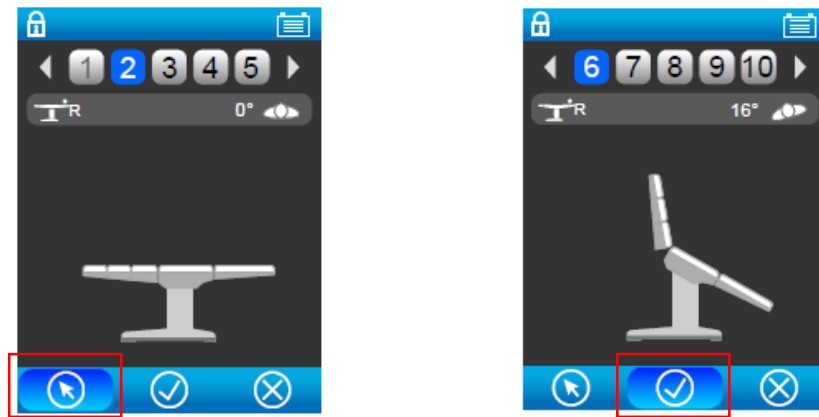

Figure 2-23 Confirm
- As Figure 2-23 shows, choose the desired number and press the “confirm” button. If the position is stored, you will hear a sound signal (two tones).